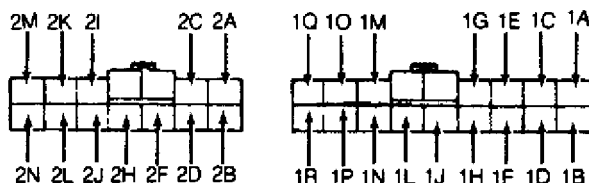

Fig. 9: Identifying Diagnostic Module Connector Terminals
fuses. See FUSE LOCATION table. See Fig. 9. Replace blown fuses. If fuses are okay, go to next step.
1) Check fuses. See FUSE LOCATION table. See Fig. 9. If a fuse is blown, check harness and replace fuse. If fuses are okay, go to next step.